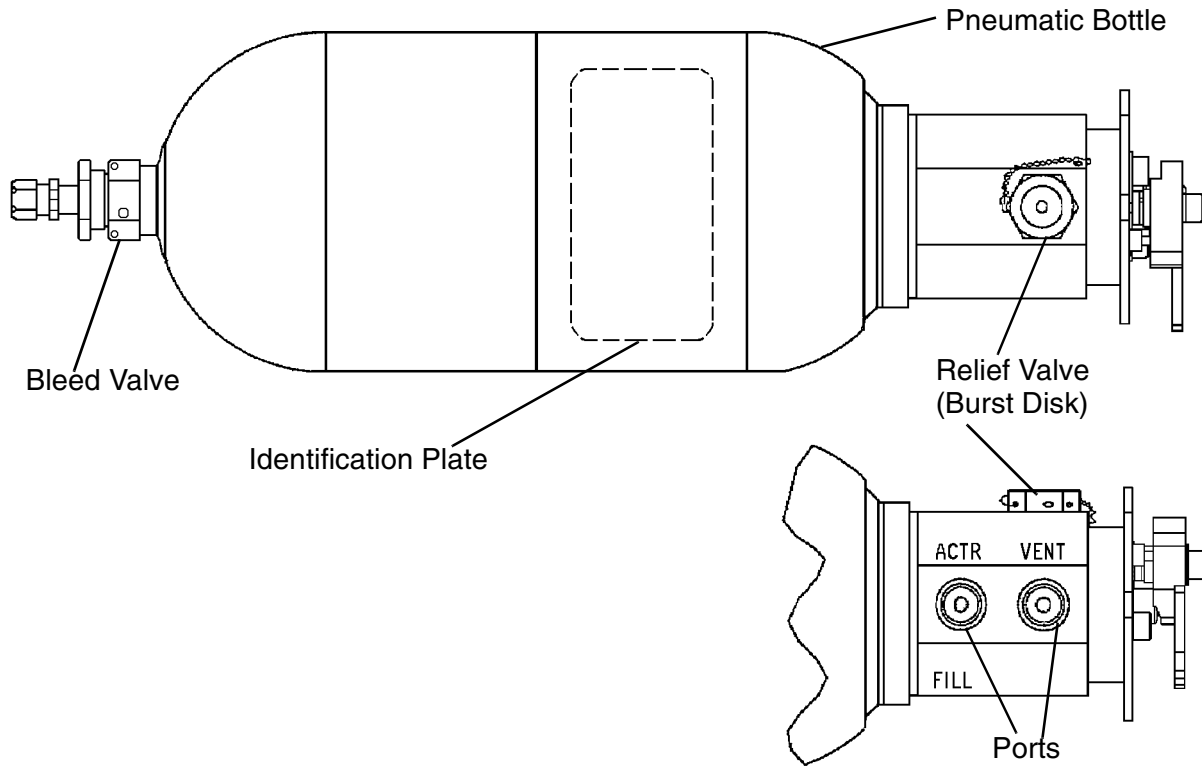
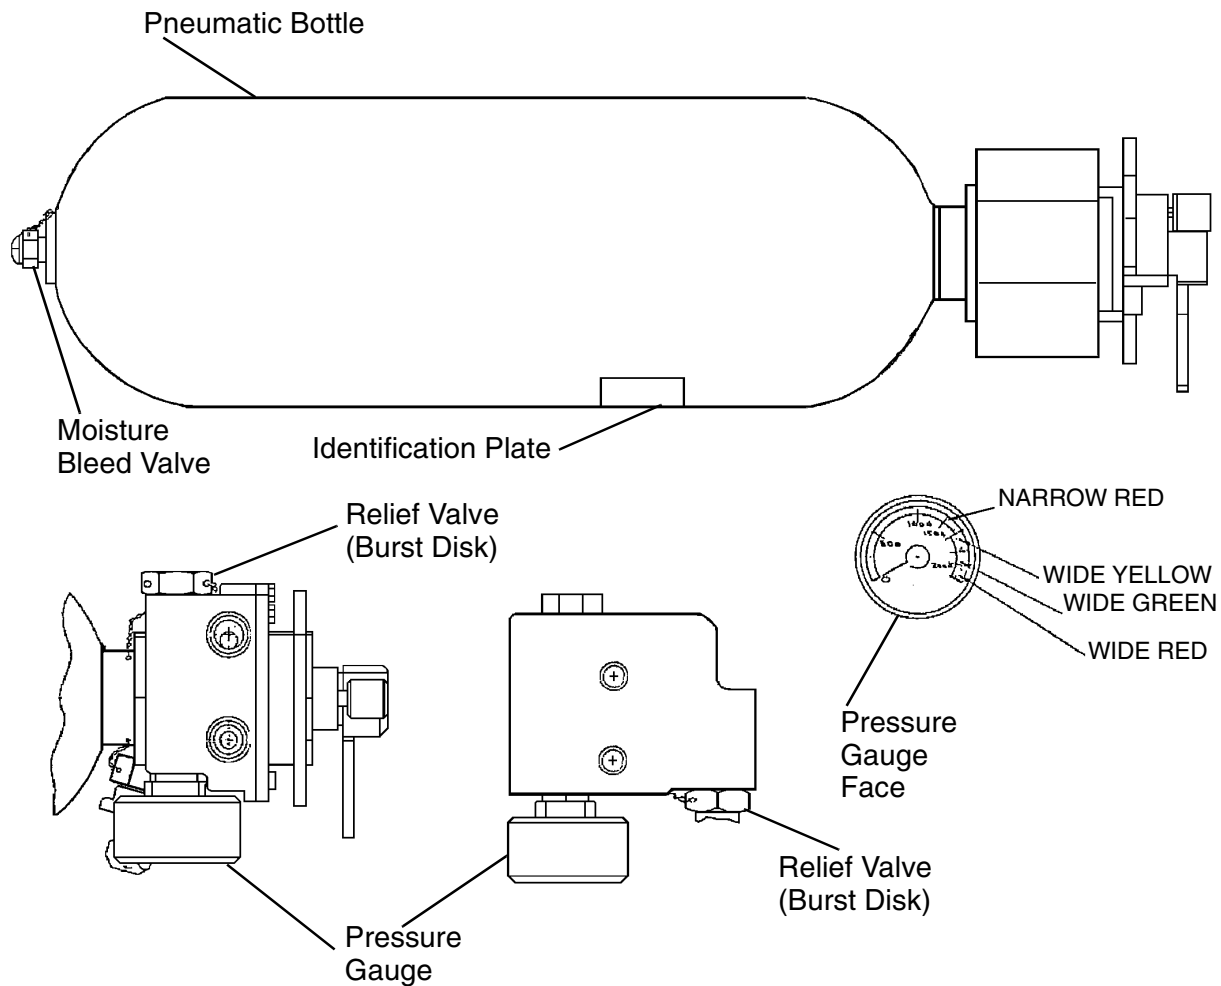

Figure 1. Primary Components for
Figure 2. Primary Components for Part Numbers 212940-2 and 40005320-2
- A. Pneumatic Bottles, part numbers 40005338-5, 40005347-3, and 450005369-1, consist of a container assembly, a discharge indicator (burst disk), and a valve (Figure 1).
- (1) Part numbers 40005338-5 and 40005347-3 use a red glass discharge indicator, part number 13519.
- (2) Part number 450005369-1 uses foil for the discharge indicator.
- B. Pneumatic Bottles, part numbers 212940-2 and 40005320-2, consist of a container assembly, a red discharge indicator (burst disk), a pressure gauge, and a valve (Figure 2).